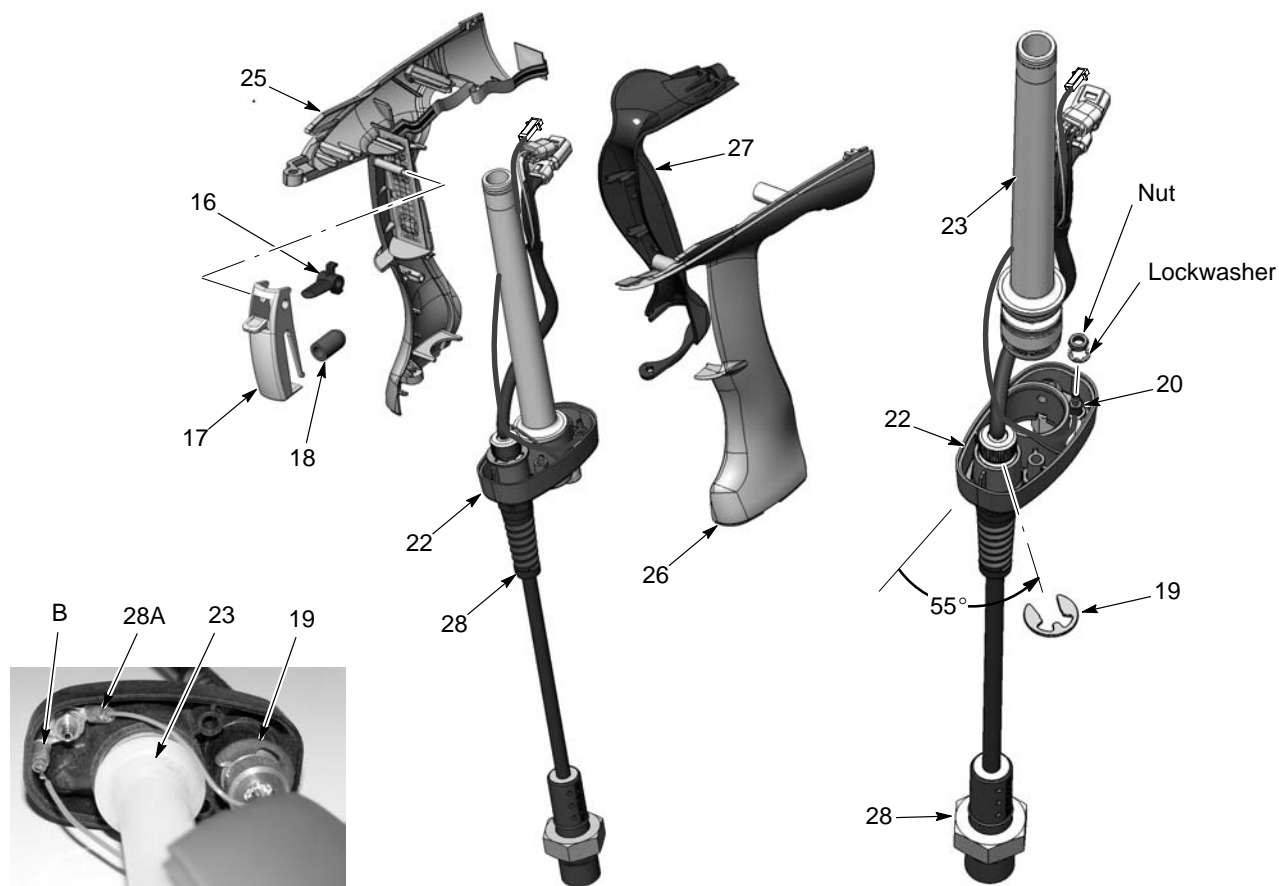

Figure 5-9 Completing Gun Disassembly
12. See Figure 5-9. Separate the right and left handles (25, 26).
1. See Figures 5-9 and 5-11. Feed the cable (28) through the handle base (22) and secure it to the base with the retaining ring (19). Position the retaining ring at the angle shown.
10. See Figure 5-9. Hook the ground pad (27) behind the locator tabs on the rear of the handles and rotate the ground pad into position against the handle assembly.